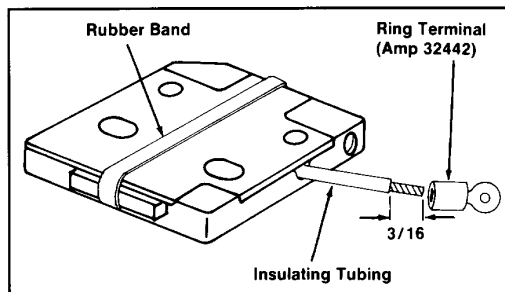

Figure 5 - Securing Brush with Rubber Band
- e. Secure the compressed brush with a rubber band as shown in Figure 5, and slide the tubing on the lead to within 3/16" of the end of the bare wire.